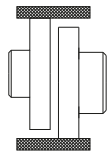

Figure 10c. Parallel sliding error in horizontal plane and adjustment.
• In order to control the parallelism mistake, a gauge with straight edge is pressed on a part of the coupling in parallel to the axis and the position of the gauge related to other part is observed. The gauge should contact with both two parts simultaneously and along its entire edge. This process should be performed at two opposite places on the horizontal and vertical plane (Figure 10c, 10d).yerde yapılmalıdır (Şekil 10c, 10d).